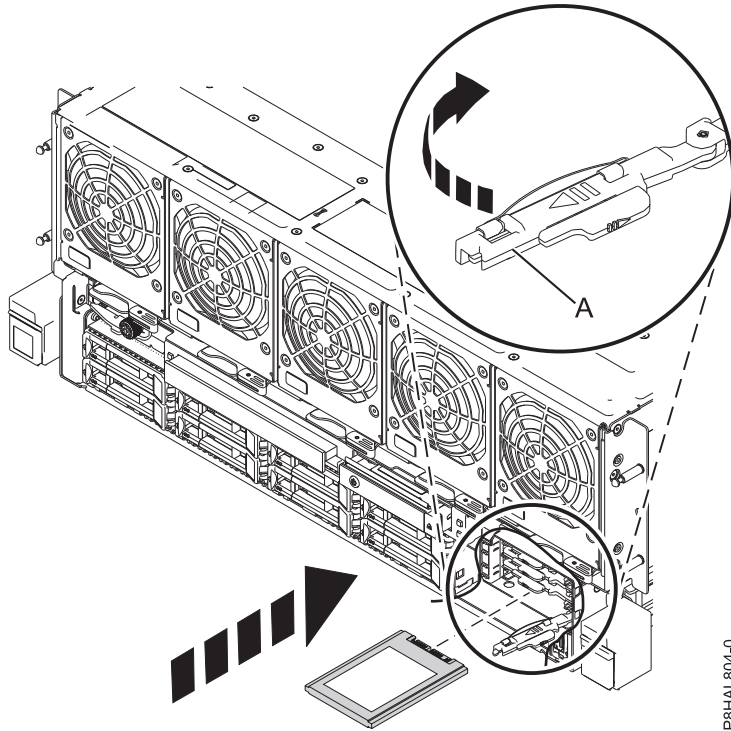

Figure 25. Replacing an SSD in an 8408-44E or 8408-E8E system
16. Lock the drive by rotating the bay handle (A) in the direction that is shown in Figure 25 on page 38.